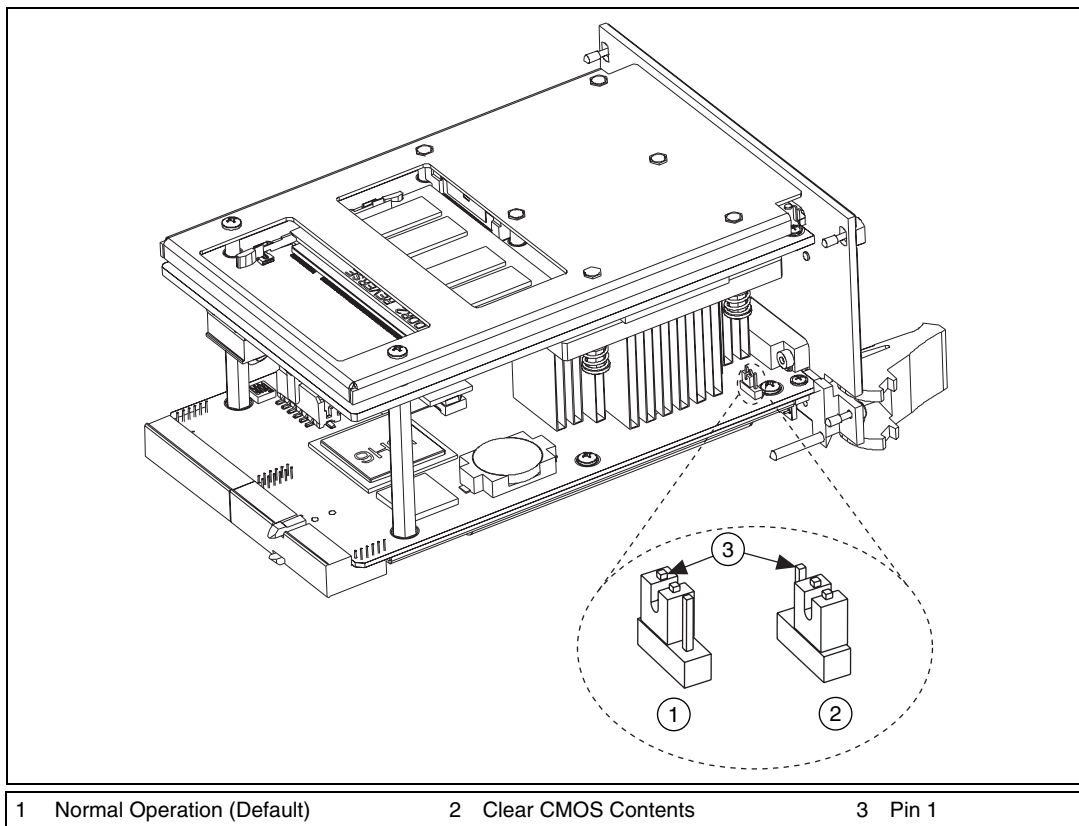

Figure 2-3. Clearing the CMOS Contents
3. Move the jumper on W1 from pins 1–2 to pins 2–3, as shown in Figure 2-3.